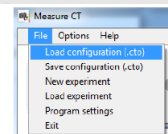
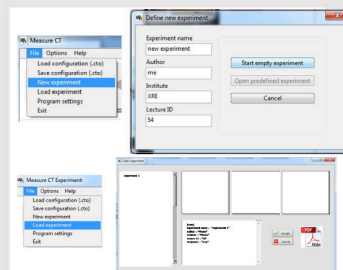

Fig. 4: The settings for this
Fig. 5: How to create a new or open an existing experiment
- Adjust the XRIS settings and X-ray unit settings according to Fig. 4 or load the configuration from the predefined CTO file 'Experiment 9' (see Fig. 5).
- Start a new experiment, give it a unique name and fill in your details (Fig. 5). Alternatively it is also possible to load this experiment with pre-recorded images and open this manual. The correct con-figuration will be loaded automatically as well but the functionalities of the software will be limited to avoid overwriting the existing data.